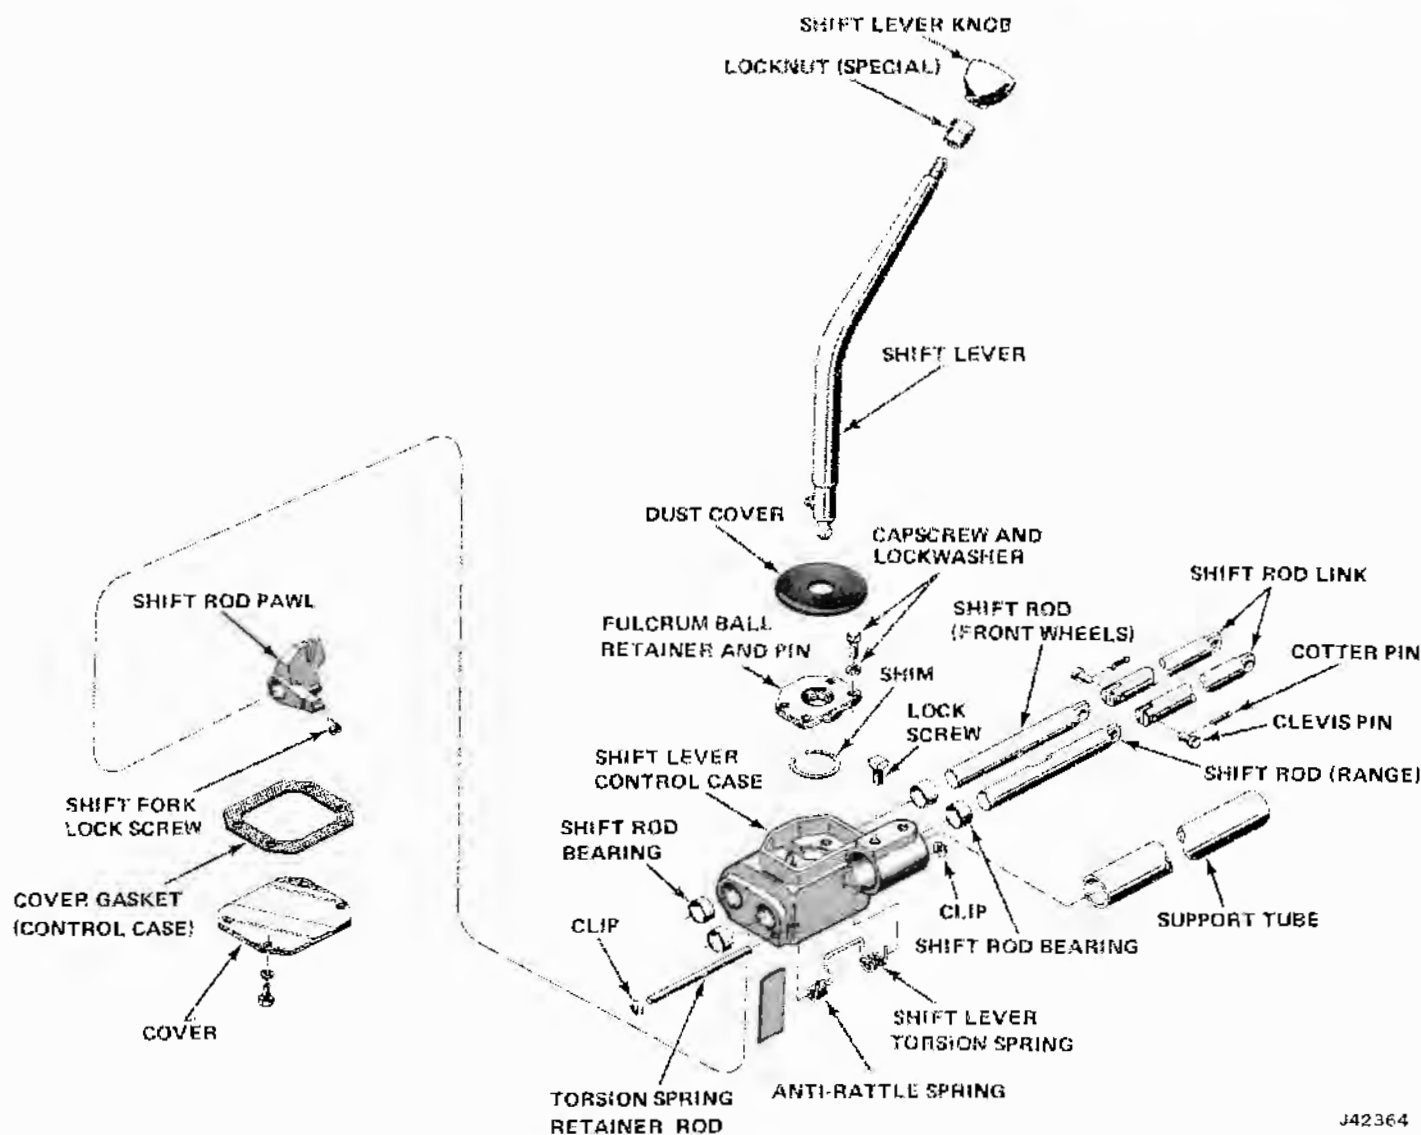

Fig. 8-15 Transfer Case Shift Control Lever - Cherokee and Truck
(1) Remove control case from support tube.
(2) Remove retainer screws, retainer, and shift lever.
(3) Remove lower cover. Remove lock screw from pawl and remove 2WD-4WD High shift rod and pawl (fig. 8-15).
(4) Pry tension spring from notches in 4WD High and Low shift rod and remove rod.
(5) Remove two clips from torsion spring retainer rod and remove rod and spring.